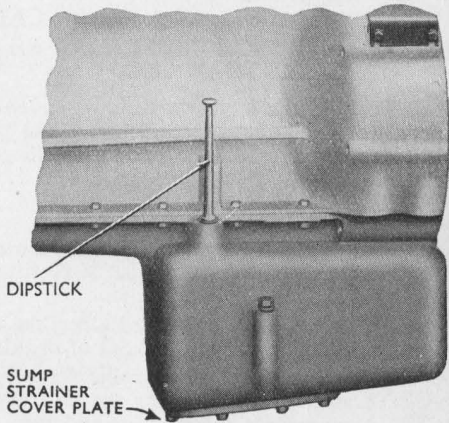

Fig. 11. Engine Oil Dipstick.
| Engine Sump | | Check level of oil in sump and top up if necessary, with 30 H.D. to top mark on dipstick (Fig. 11). Do not fill above the level indicated. |
Engine Sump and Strainer. Drain by removing the two drain plugs. Under supervision, remove the sump strainer and cover plate (*see Fig 11*), by unscrewing the six nuts securing the cover plate to the rear end of the bottom of the sump. The sump strainer will be removed with the cover plate—do not separate. Clean the strainer with paraffin, then refit to sump, exercising care that the oil suction pipe enters the hole in the strainer. Refit the two drain plugs and secure with locking wire. Refill with oil to top mark on dipstick.
- (A) **CHECK LEVEL OF OIL IN SUMP** and refill, if necessary, to the top mark on dipstick (*Lubrication Chart Reference No. 1*). **This is in addition to daily replenishment and periodical oil change ; see page 22. Use oil 30 H.D. (see Figs. 11 and 13).**
- (B) **CHECK READING ON OIL PRESSURE GAUGE** (with engine running).